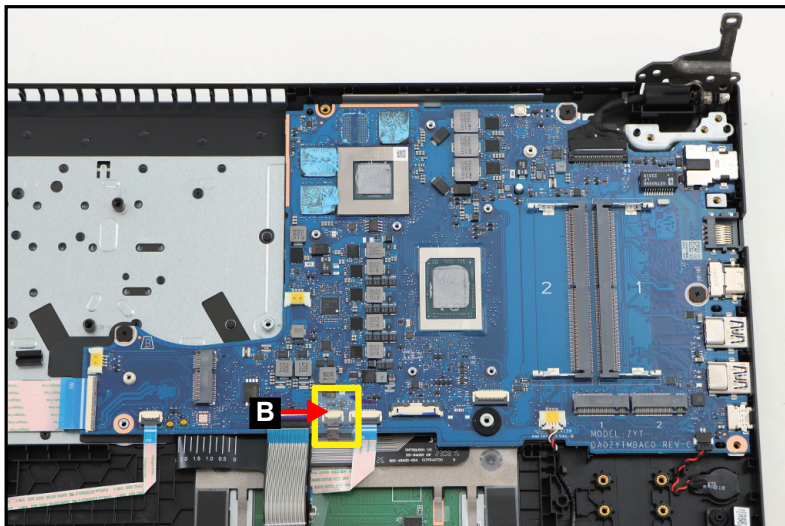

Figure 1-35. Mainboard Removal
4. Detach the mylar (B) securing the keyboard backlight FPC connection (Figure 1-35).